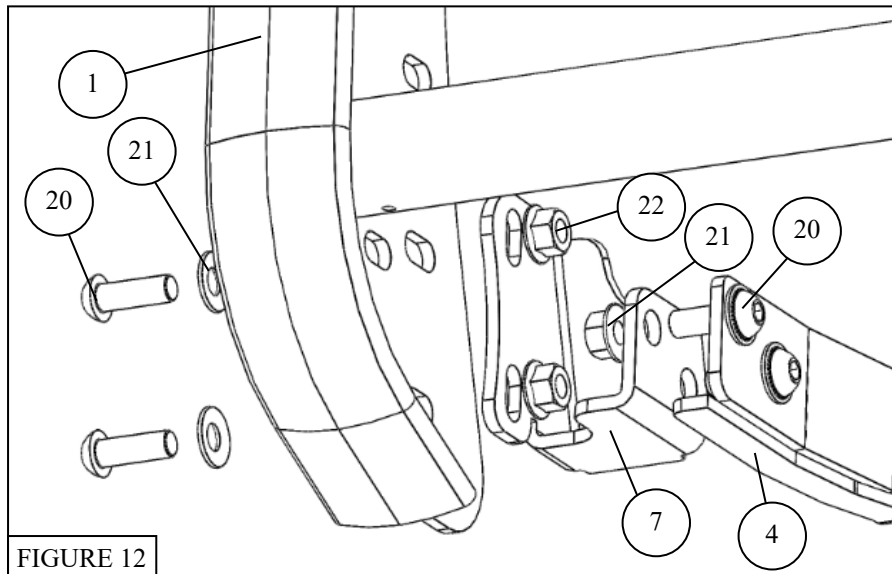

FIGURE 12
18. Install the extension brackets (**Figure 12**) using M12 button head bolts M12 Bellville washer and M12 serrated flange nut leave hardware loose for now.
18. Install the grille guard to the bottom brackets (**Figure 12**) using M12 button head bolts M12 Bellville washers and M12 serrated flange nuts. Slightly tighten hardware for now to secure the grille guard.